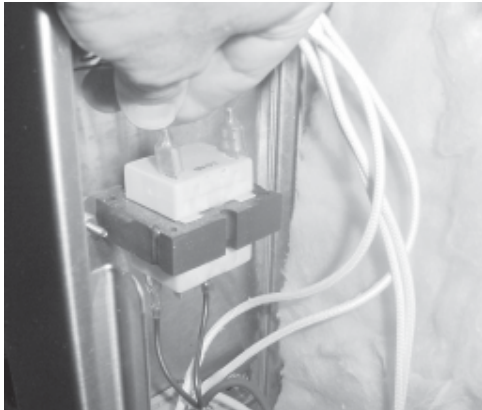

Figure 2-19
3. Label and remove wires to the transformer (Figure 2-19).